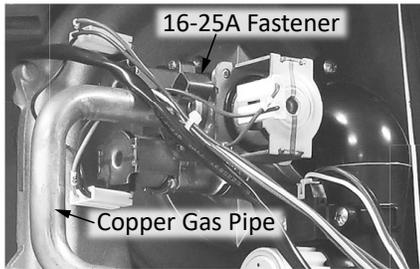

Figure 34: Gas Pipe and Fan Motor Assembly removal.
- 6 Remove the 16-25A metal fasteners on both ends of the copper gas pipe (# 104) and set them aside for re-installation. Remove the two screws securing the fan motor to the mixing chamber assembly. See Figure 34.
- 4 Remove the 16-25A metal fasteners on both ends of the copper gas pipe (# 104) and set them aside for re-installation. See Figure 34.
- 12 Reinstall the copper gas pipe using the 16-25A metal fasteners removed earlier. Inspect the O-rings, if any cuts or nicks are present replace them immediately. See Figure 34.